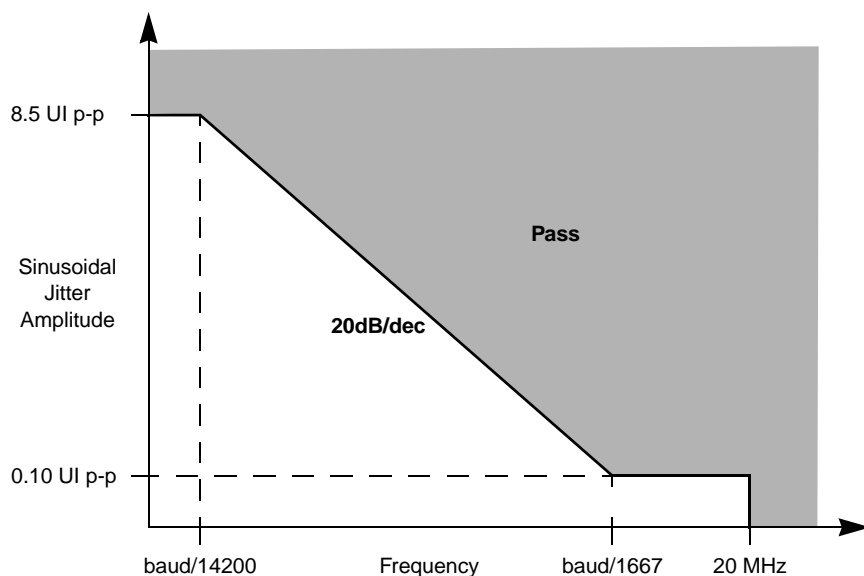

Figure 17. Single Frequency Sinusoidal Jitter Limits for Data Rates for 3.125 Gbps and Below
2. Total jitter is composed of three components, deterministic jitter, random jitter and single frequency sinusoidal jitter. The sinusoidal jitter may have any amplitude and frequency in the unshaded region of Figure 17 . The sinusoidal jitter component is included to ensure margin for low frequency jitter, wander, noise, crosstalk and other variable system effects.